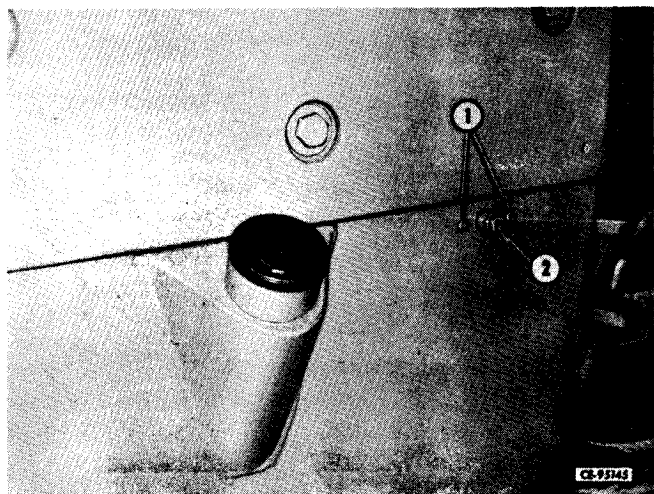

Figure 2-14
Remove cap screws (1, Fig. 2-14) disconnecting engine crankcase drain line (2) from side of fuel tank. Wire drain line to side of engine.